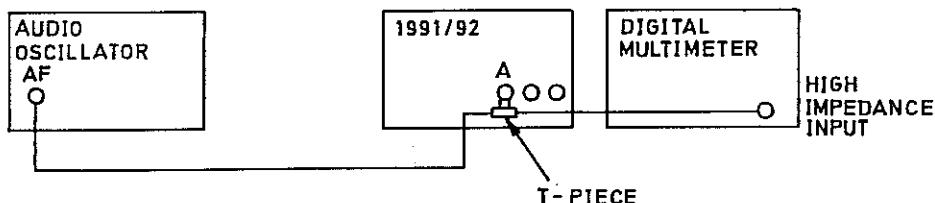

Fig 7.16 Connections for Channel A Sensitivity PVP
- 46      (1) Connect the test equipment as shown in Fig 7.16.
- (2) Set the signal generator output to the frequencies shown in Table 7.5 in turn. Set the 1991/92 resolution to the corresponding value. Enable the 50 kHz filter.
- (3) At each frequency, determine the minimum input level to the 1991/92 which gives stable counting. Verify that this is not more than the level shown in the table.
- (4) Disable the 50 kHz filter. Disconnect the test equipment.